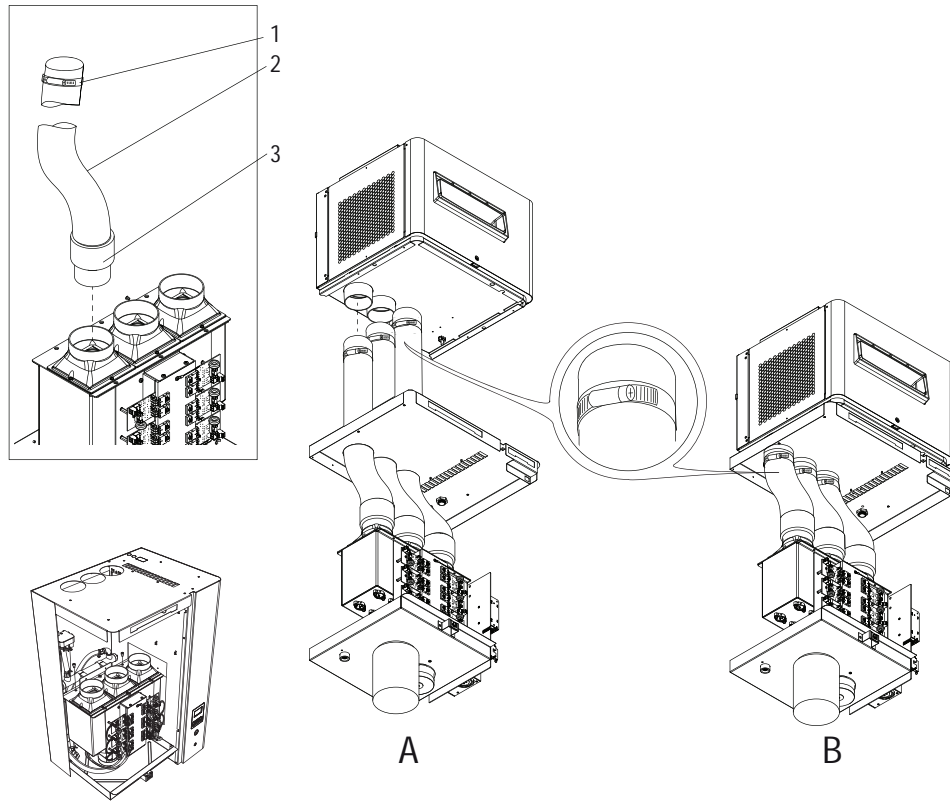

Figure 13 - Flexible Tubes. (A) Remote-Mount Installation. (B) Direct-Mount Installation.
- b. Route the 'connector' end (item 3) of the flexible tube to the top of the water reservoir. Secure the connection by gently inserting the connector and tube into the reservoir, as seen in Figure 13 on the facing page.